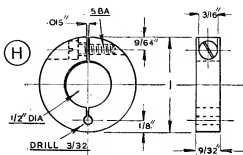

Fig. 7
The Adjusting Collar (H). As will be clear from the drawings, this thrust collar fits directly on the spindle, and makes contact with the end of the spindle sleeve in order to eliminate end-float and to resist any back-thrust that may arise whilst the attachment is in operation. The working drawings of this part are given in Fig. 7, and it is first turned and then bored to size to make it a good push fit on the spindle.